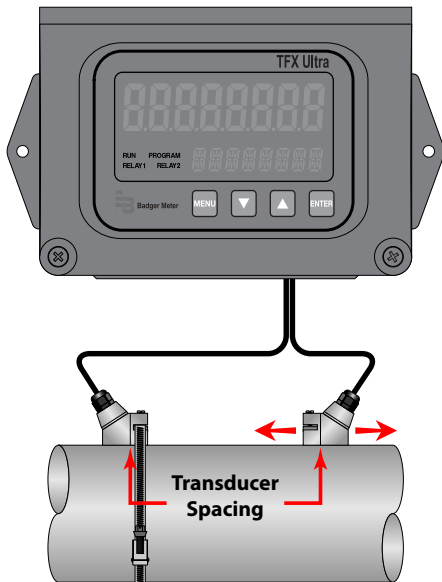

Figure 12: Transducer positioning
2. Place the downstream transducer on the pipe at the calculated transducer spacing. See *Figure 12 on page 21*. Apply firm hand pressure. If signal strength is greater than five, secure the transducer at this location. If the signal strength is not five or greater, using firm hand pressure slowly move the transducer both towards and away from the upstream transducer while observing signal strength. Signal strength can be displayed on the transmitter's display or on the main data screen in the UltraLink software utility. See *"Parameter Configuration Using UltraLink Software" on page 48*. Clamp the transducer at the position where the highest signal strength is observed. The factory default signal strength setting is five. However, there are many application-specific conditions that may prevent the signal strength from attaining this level. Signal levels less than five will probably not be acceptable for reliable readings.